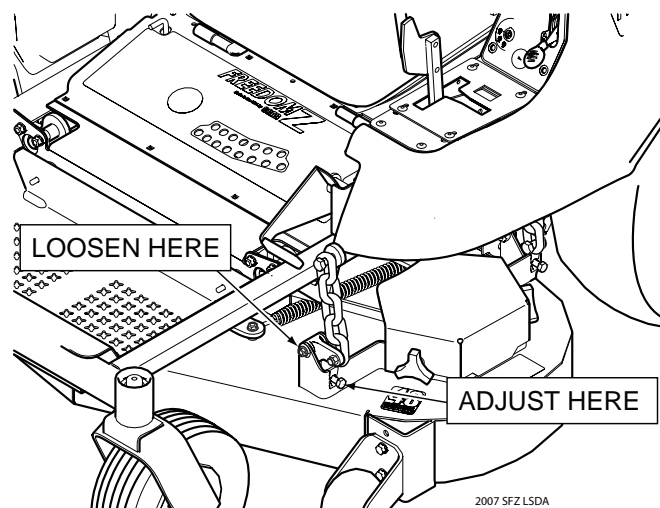

Figure 6-5. Cutter Deck Pitch Adjustment
1. Loosen the elastic stop nuts securing the deck level links on front of the cutter deck on both sides (See Figure 6-5, Figure 6-6).